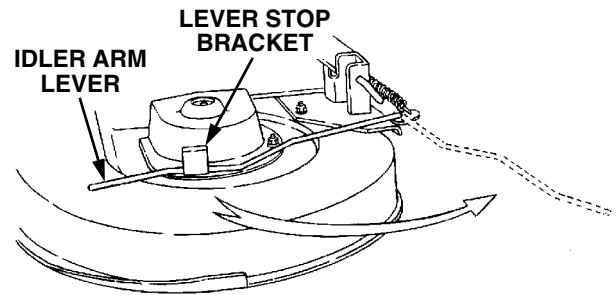

Figure 49
- Disengage the deck idler arm lever from its stop bracket and release the spring tension by rotating the lever out and rearward (See Figure 49).